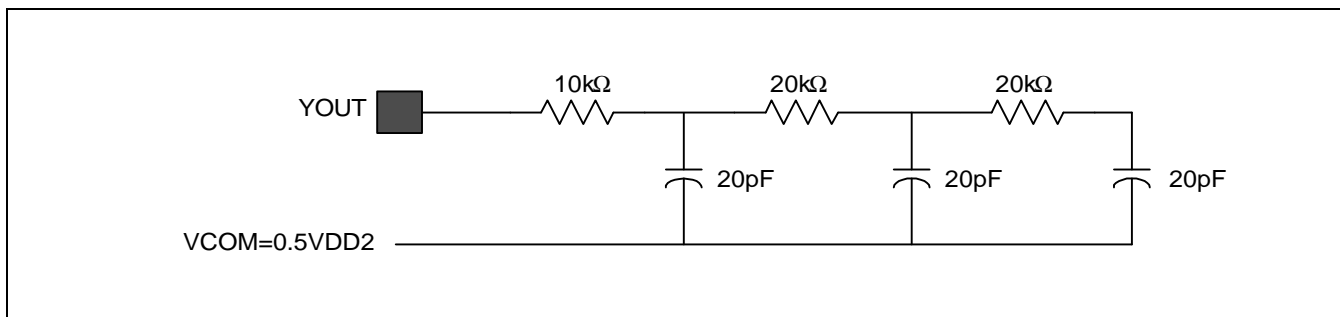

Figure 4. Yout Load Condition
- Yout load condition (refer to Figure 4. Yout Load Condition) applied.
3. Yout load condition (refer to Figure 4. Yout Load Condition)